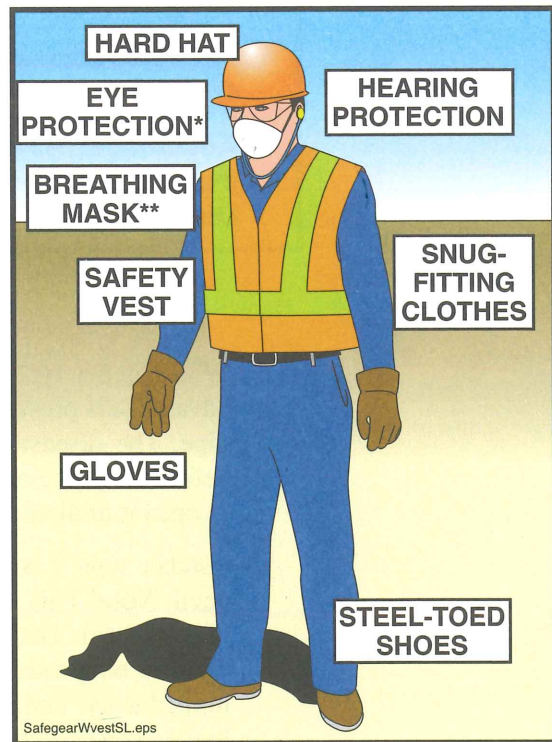

Figure 14
6.3 **WARNING** When operating the machine, wear **Personal Protective Equipment** (P.P.E., or just PPE). (Including *full face shield and/or ** breathing mask, when necessary, as shown in Figure 14.)